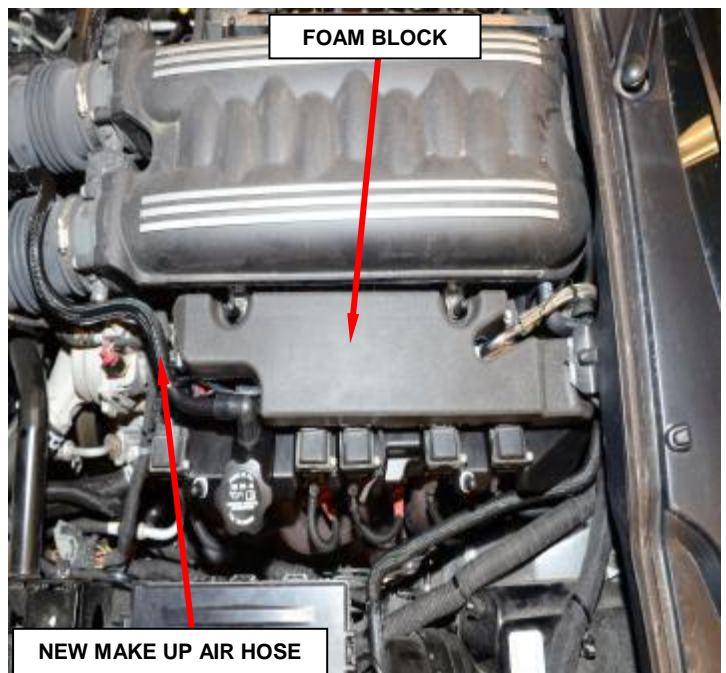

Figure 8 – Foam Block
20. Install the **supplied** foam block over the fuel rail as shown (Figure 8).